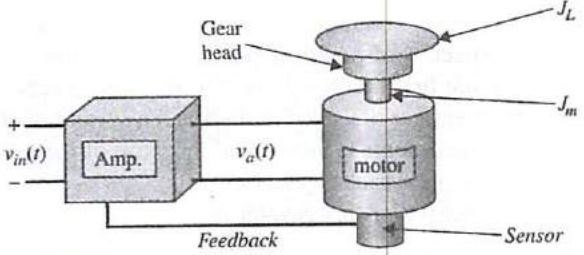
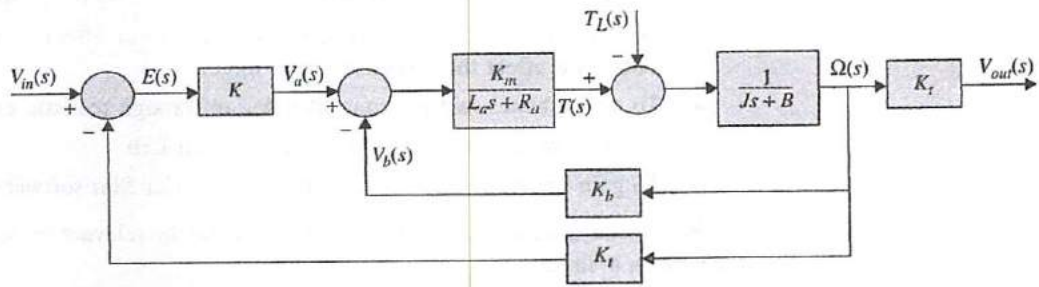

Figure 6-1 Feedback control of an armature-controlled dc motor with load inertia.
Figure 6-2 Block diagram of a speed-control, armature-controlled dc motor.
- 6-6. For the system in Fig. 6-1, use the parameters for Problem 6-1 (but set $L_a = 0$) and an amplifier gain of 2 to drive the motor (ignore the amplifier voltage and current limitations for the time being). What is the steady-state speed when the amplifier input voltage is 5 V?
The experiments that you will perform are intended to give you hands-on (virtually!) experience in analyzing the system components and experimenting with various feedback control schemes. To study the speed and position response of a dc motor, a typical experimental test bed is shown in Fig. 6-1.
A simple speed control system is composed of a sensor to measure motor shaft speed and an amplifier with gain K (proportional control) in the configuration shown in Fig. 6-1. The block diagram of the system is also shown in Fig. 6-2.